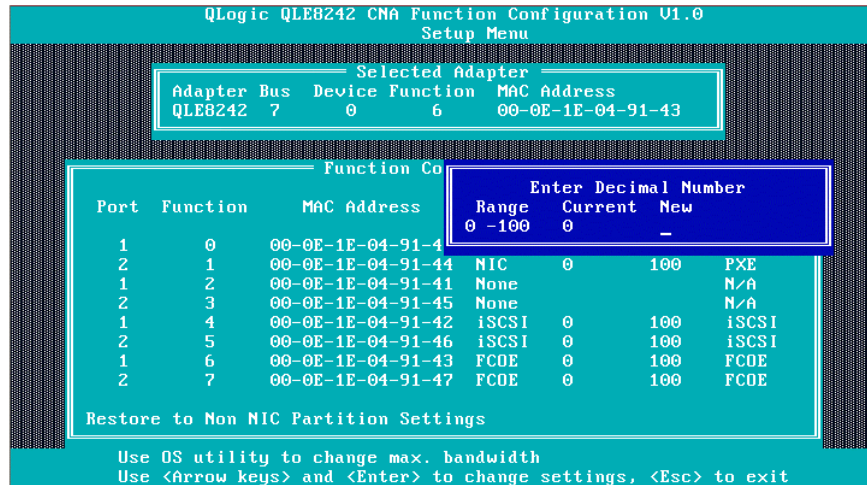

Figure 30: Adjusting the Minimum Bandwidth
4. Move your cursor to the **MinBW%** column to adjust the minimum bandwidth (Figure 30) on each partition (between 0–100%).
Note: Do not set any bandwidth percentages for the FCoE function. The adapter uses the enhanced transmission selection (ETS) settings for determining FCoE bandwidth. The NIC bandwidth settings configured in the Figure 30 are not a percentage of the line rate (10Gb): they are a percentage of the NIC bandwidth allocated to this NIC port through ETS on the switch.